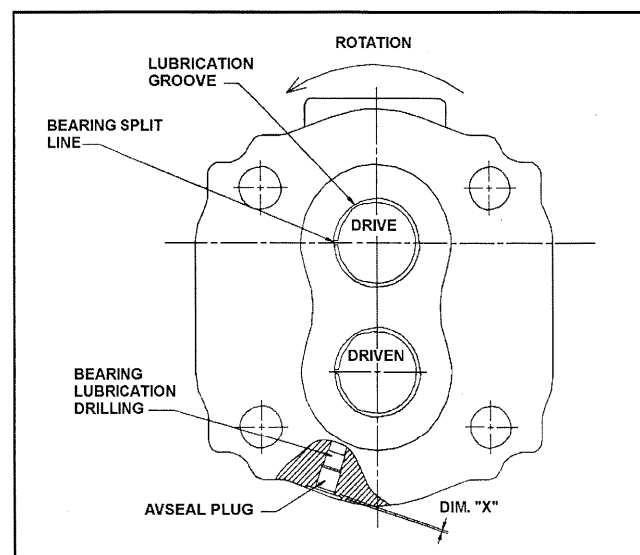

Figure 3: Bearing Orientation in Cover For Clockwise Rotation Viewed on Figure "8" Spigot
3. The fitted plug must be below the level of the spotface by the amount shown in Table 2 and as shown in Figures 3 and 5.